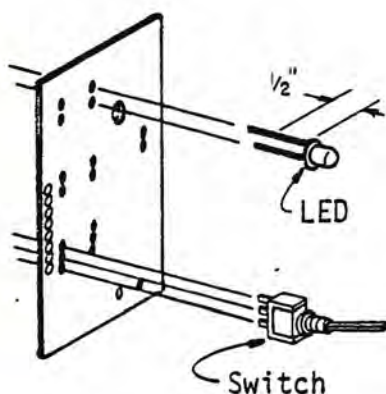

Figure 5-40b LED & Switch Orientation
1. Insert the LEDs, taking care to match the flattened side of the LED to the flattened marking on the silkscreened side of the board. The leads of the LED should project above the board approximately 1/2 inch. (Figure 5-40b describes the process).